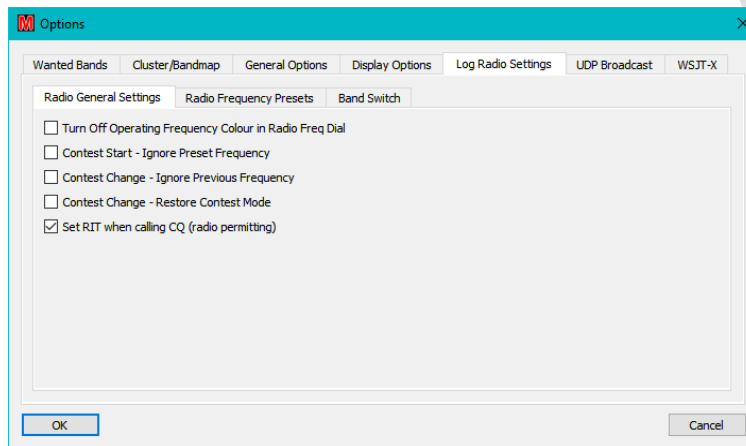

Figure 83 – Radio General Settings
- In ‘**Radio General Settings**’ (Figure 83) there are three options76 to control the usage of band presets and per contest frequencies/modes: